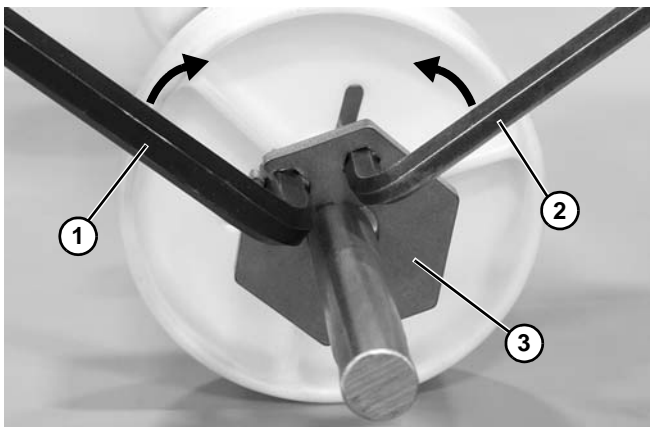

Figure 135
- a. Insert an 8 mm (**Figure 135, item 1**) and 6 mm (**Figure 135, item 2**) hex wrench into the retainer plate.
- b. Move wrenches toward each other to open the retainer plate (**Figure 135, item 3**) and install onto the shaft. Position retainer plate where needed.